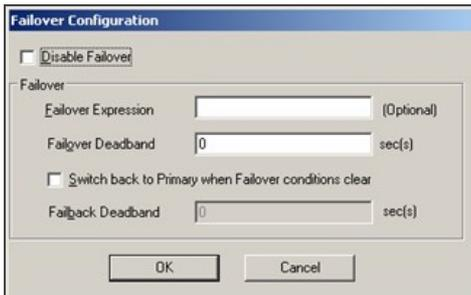

Figure 2: Configure Failover
2. Click **OK**. The **Failover Configuration** dialog box appears (Figure 2 below).